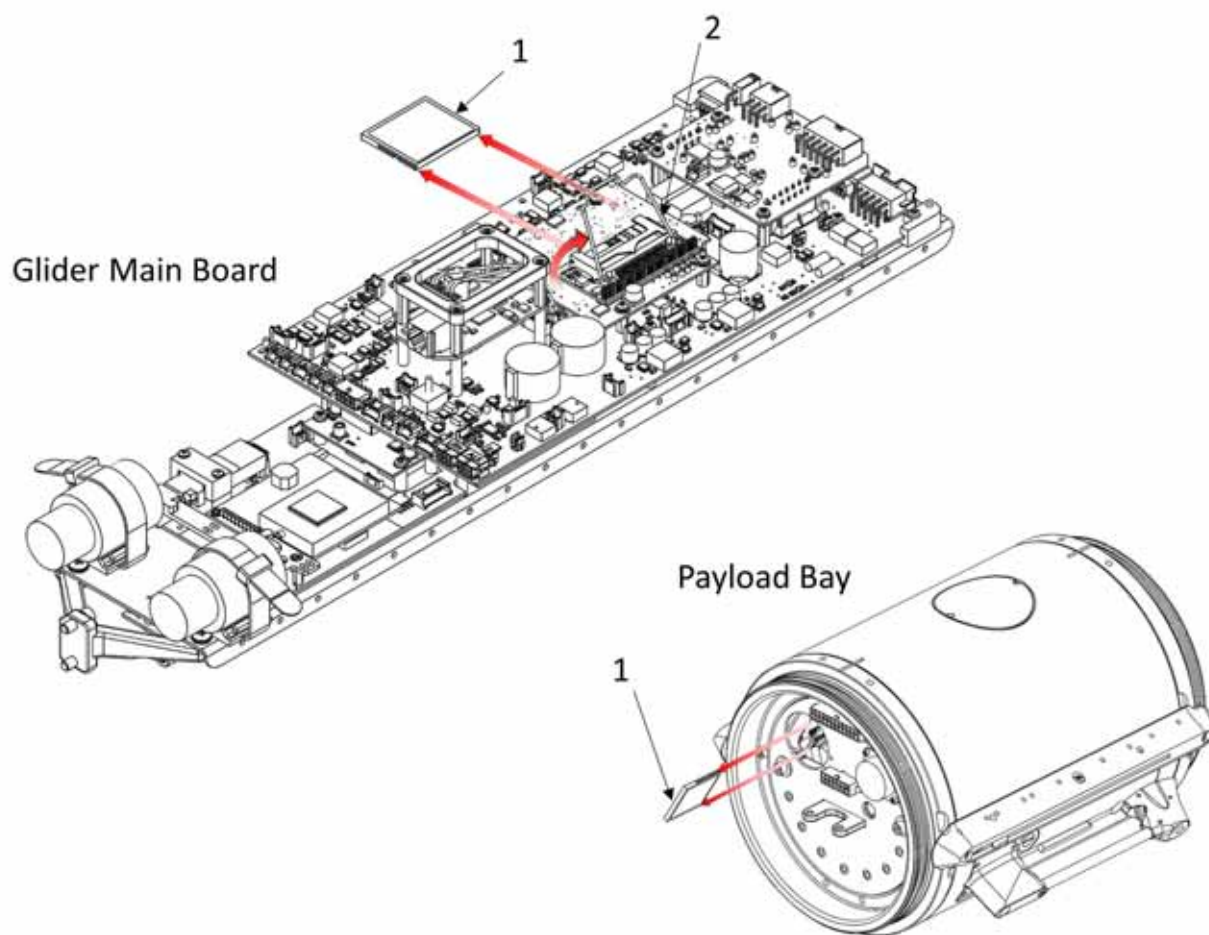

Figure 2-24 Compact flash memory card.
2. Remove the compact flash memory card (Figure 2-24, Item 1).
1. Disengage the compact flash memory card retaining clip (Figure 2-24, Item 2).
1. Install the compact flash memory card (Figure 2-24, Item 1). Ensure that the memory card's metal contacts are facing down, and slide the card into the slot until it is firmly seated.
1. Install the compact flash memory card (Figure 2-24, Item 1). Ensure that the memory card's metal contacts are facing down, and slide the card into slot until it is firmly seated.
2. Engage the compact flash memory card retaining clip (Figure 2-24, Item 2).